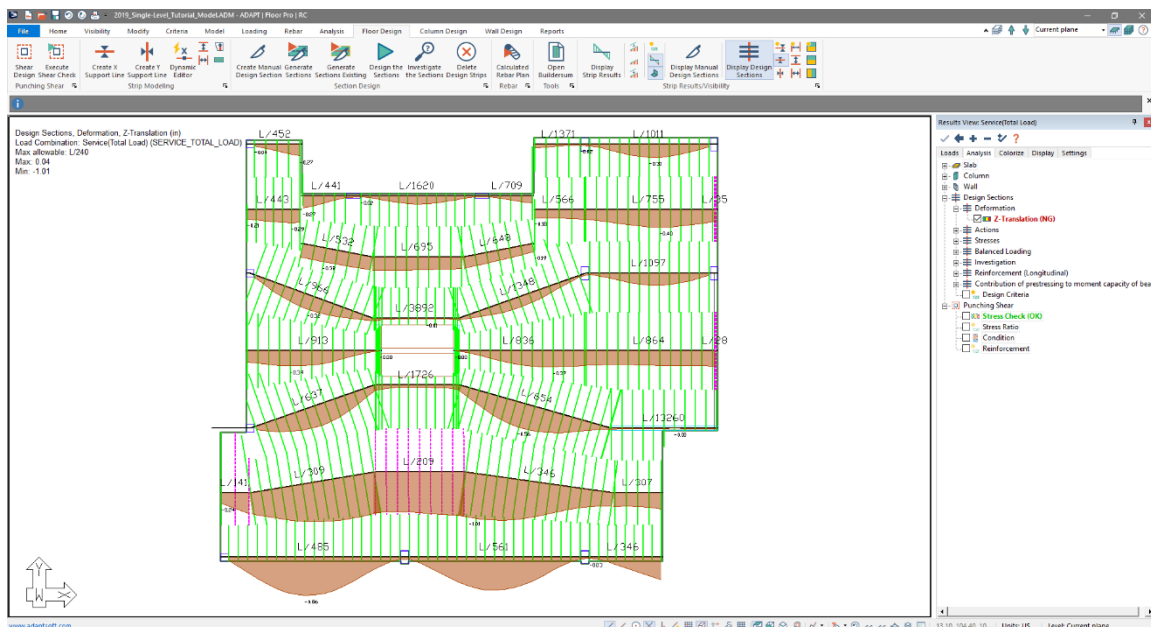

Figure 7-13
- In the *Analysis* tab tree, navigate to *Design Sections* → *Deformation* → *Z-Translation* and check the box next to *Z-translation*. The user should now see the strip results for the X-direction support line's deflection check as shown in **FIGURE 7-13**. Note that the deflection check fails in a few locations.